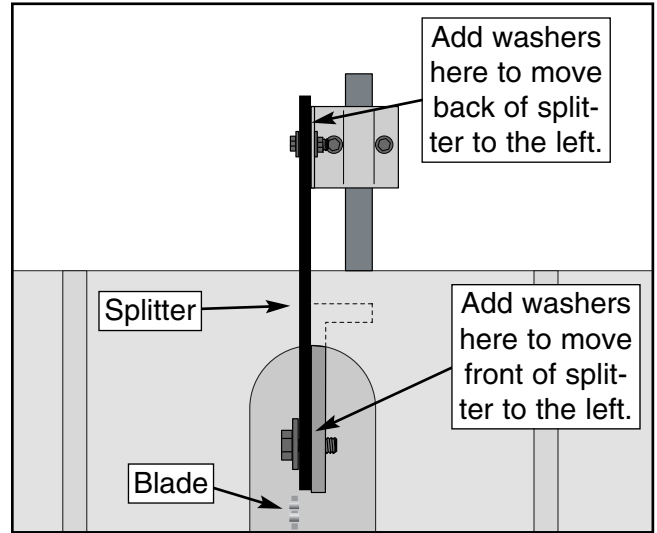
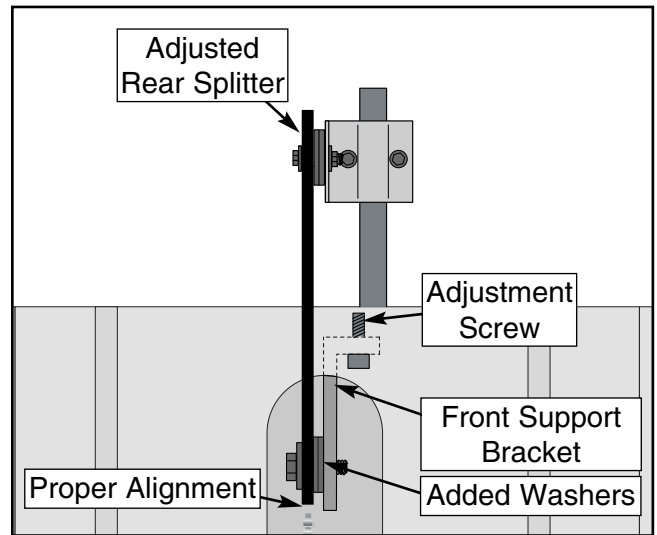

Figure 21. Improper splitter/blade alignment.
Figure 22. Proper splitter/blade alignment.
- If the blade splitter is to the right of the blade as shown in **Figure 21**, simply add washers between the splitter and the front mounting bracket, and adjust the rear splitter support as shown in **Figure 22**.
7. If the splitter is positioned to the left of the blade, alignment cannot be achieved by washer placement. Adjustment of the front support bracket is required. See **Figure 21** for adjustment details. Loosen the 2 adjustment screws and move left or right.